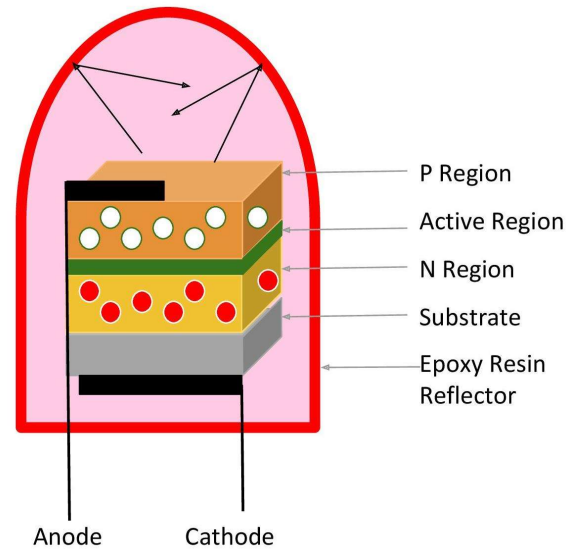

Figure 12c: LED construction
3. The active region is the depletion region created between the p-type and n-type semiconductors as shown in *Figure 12c*.